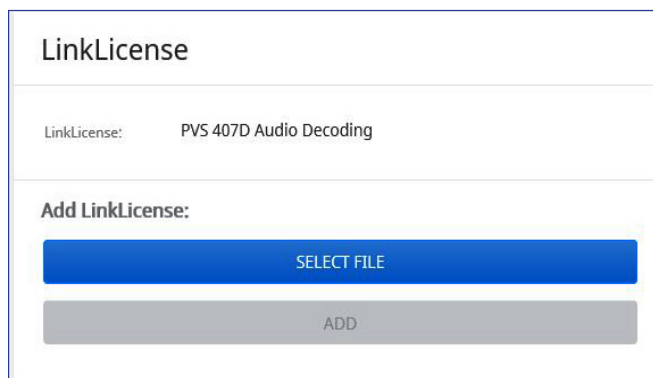

Figure 38. LinkLicense Uploaded
4. Click **ADD**. The LinkLicense is uploaded and automatically installs to the connected PVS 407D. The switcher automatically performs a system reboot when complete to apply the LinkLicense. When the license is properly installed, your LinkLicense panel looks like figure 38.